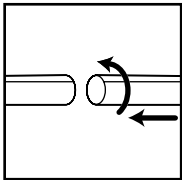

FIGURE 1
6. Attach one of the cleaning accessories (depending on your cleaning requirements) on the extension wands. Twist slightly to tighten the connection. **FIGURE 1.**
6. Attach the extension wands (not standard with all models) to the accessory end of the hose. Twist slightly to tighten the connection. **FIGURE 1.**